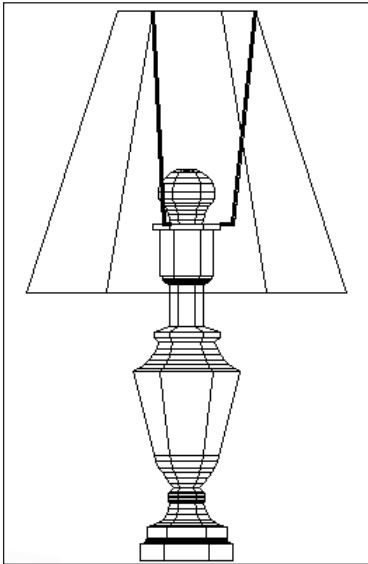

Figure 24-28: The completed lamp
2. Save the file as `ab24-08.dwg` in your AutoCAD Bible folder. You see the same lamp used in the previous Step-by-Step exercise, but it has now been completed, as shown in Figure 24-28.